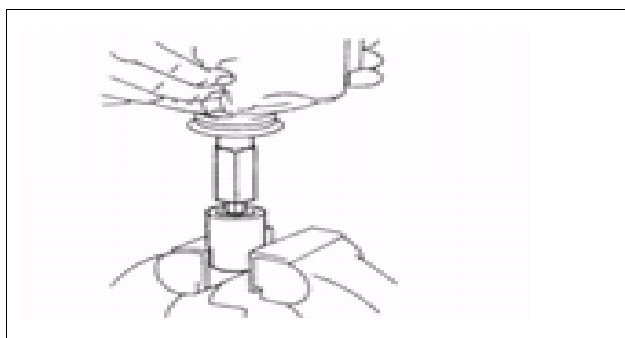

Figure 436
• Use a torque wrench to hold special tool (A) and tighten special tool (B) in a clockwise direction to the required torque (see Fig. 436).